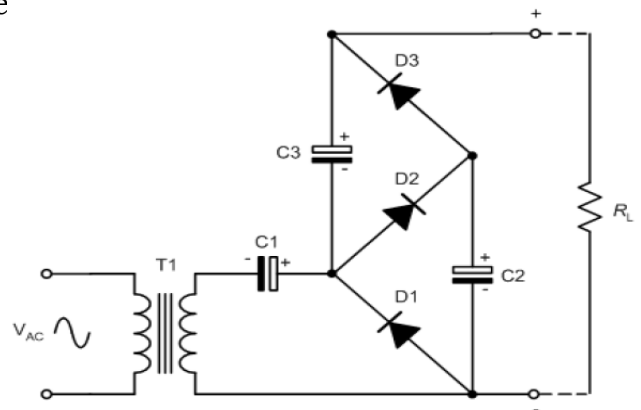

Fig. 1.14: A voltage tripler
- The voltage doubler can be extended to produce higher voltages using the cascade arrangement shown in Fig. 1.14.